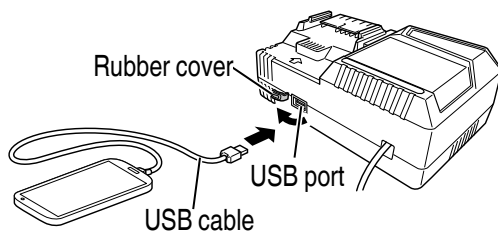

Fig. 11
- (2) Connect the USB cable. (**Fig. 11**)